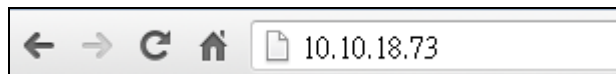

Figure 4-23: IEI iMAN Web Address
Step 3: On the remote management console, open a web browser. Enter the managed system IP address in the web browser (**Figure 4-23**).